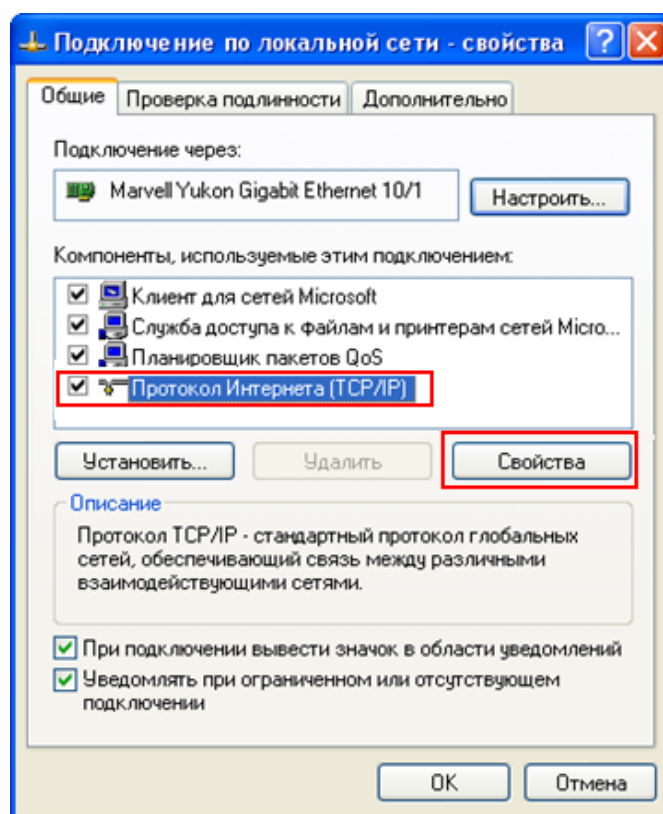

Figure 4.4 – Connection by local net properties window
- 4) In the new window put cursor on **Internet protocol version 4** and push **Properties** (view Figure 4.4).